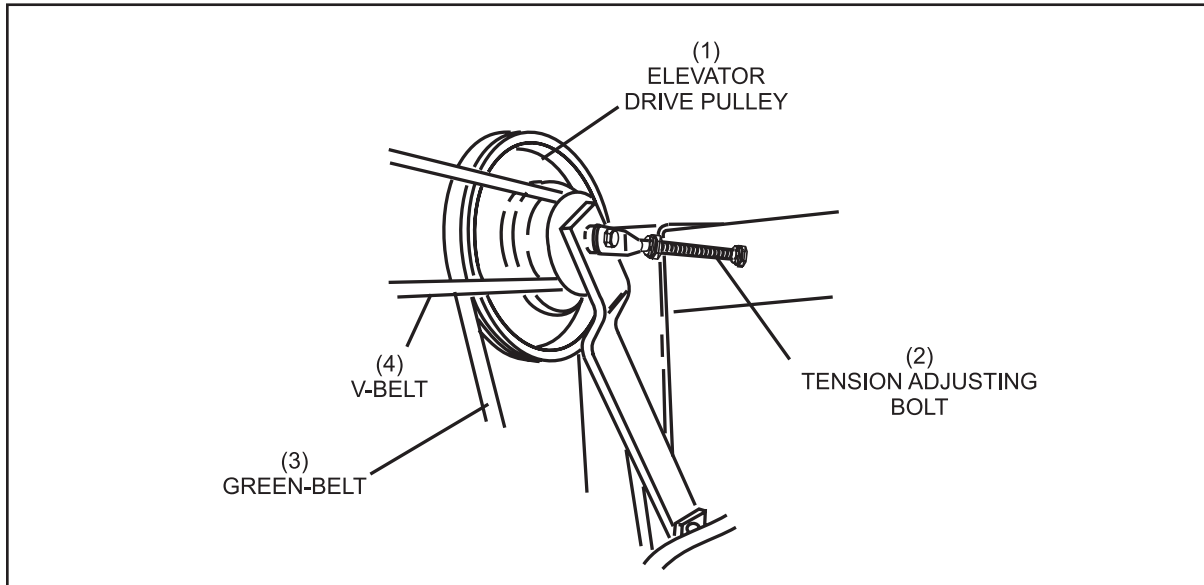

Figure 5-18. Tension Adjustment
2. Loosen the tension adjusting bolt. Refer to *Figure 5-18*.